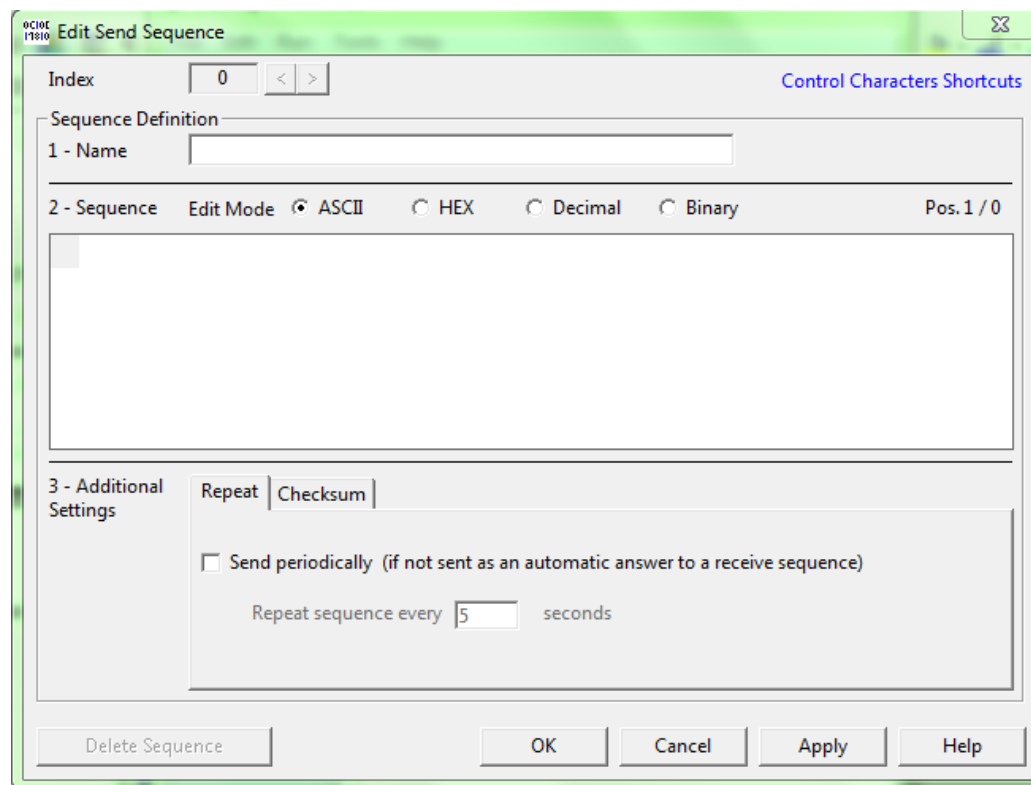

Figure 6: 'Edit Send Sequence' window
6. Now a Dump Connection command will appear in Send Sequence list. User can add multiple commands to Send Sequence list in Docklight. Command can be sent to Yoda by clicking on the Arrow next to the command. [Figure 6]